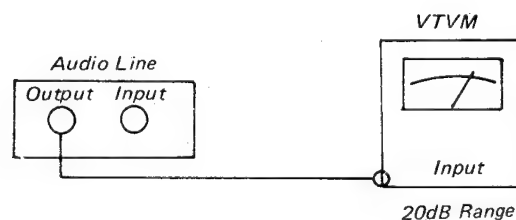

Fig. 5-87 Audio Line Output Level Adjustment.
4. Adjust the tracking control for the best picture quality while observing the envelope waveform, with the VTVM connected to the AUDIO LINE OUT terminal for audio line output level adjustment (see Fig. 5-87).